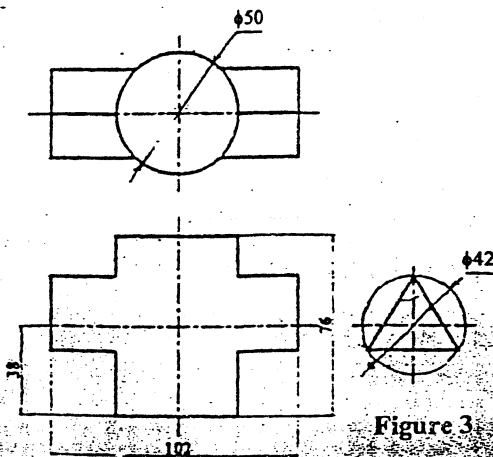

Figure 3
5. Draw the lines of intersections of the surfaces of geometrical solids shown in figure 3. [6]